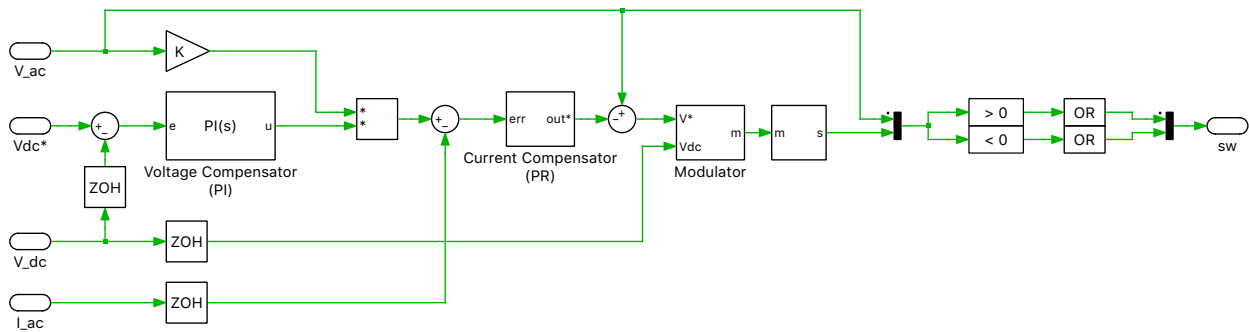

Fig. 6: Controller schematic
Fig. 6 depicts, the control scheme is composed of two loops - an outer voltage loop and an inner current loop. The error signal obtained by comparing the measured output voltage (DC) against a voltage set-point is given to the outer loop proportional-integral (PI) controller for voltage compensation. The voltage loop output is multiplied by the input voltage signal (AC) to generate the current reference. The inner loop proportional-resonant (PR) controller [2] controls the input current to follow the current reference. The resulting value is provided to a modulator for PWM generation. Logic is included in the controller such that the switches S1 and S2 either conduct or modulate throughout a half cycle based on the input voltage.